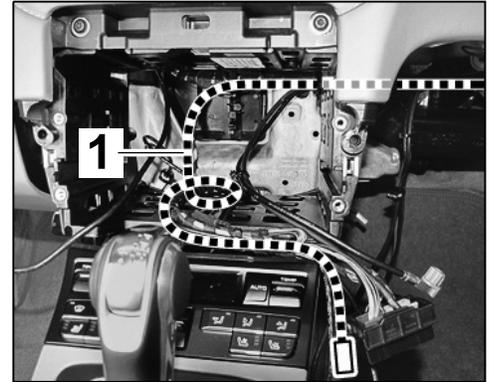

Figure 7
- 2.3.3 Route GPS antenna line \Rightarrow *Figure 7 -1-* to the PCM central connector.